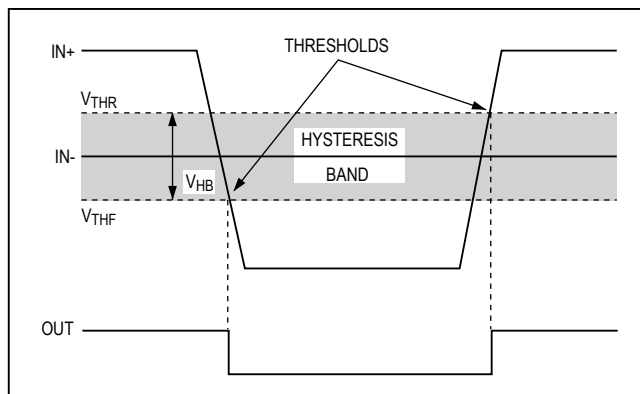

Figure 1. Threshold Hysteresis Band
- Note 3:** The hysteresis-related trip points are defined as the edges of the hysteresis band, measured with respect to the center of the band (i.e., V_{OS}) (Figure 1).
The hysteresis in a comparator creates two trip points: one for the rising input voltage (V_{THR}) and one for the falling input voltage (V_{THF}) (Figure 1). The difference between the trip points is the hysteresis (V_{HB}). When the comparator's input voltages are equal, the hysteresis effectively causes one comparator input to move quickly past the other, thus taking the input out of the region where oscillation occurs. Figure 1 illustrates the case in which the comparator's inverting input has a fixed voltage applied, and the noninverting input is varied. If the inputs were reversed, the figure would be the same, except with an inverted output.